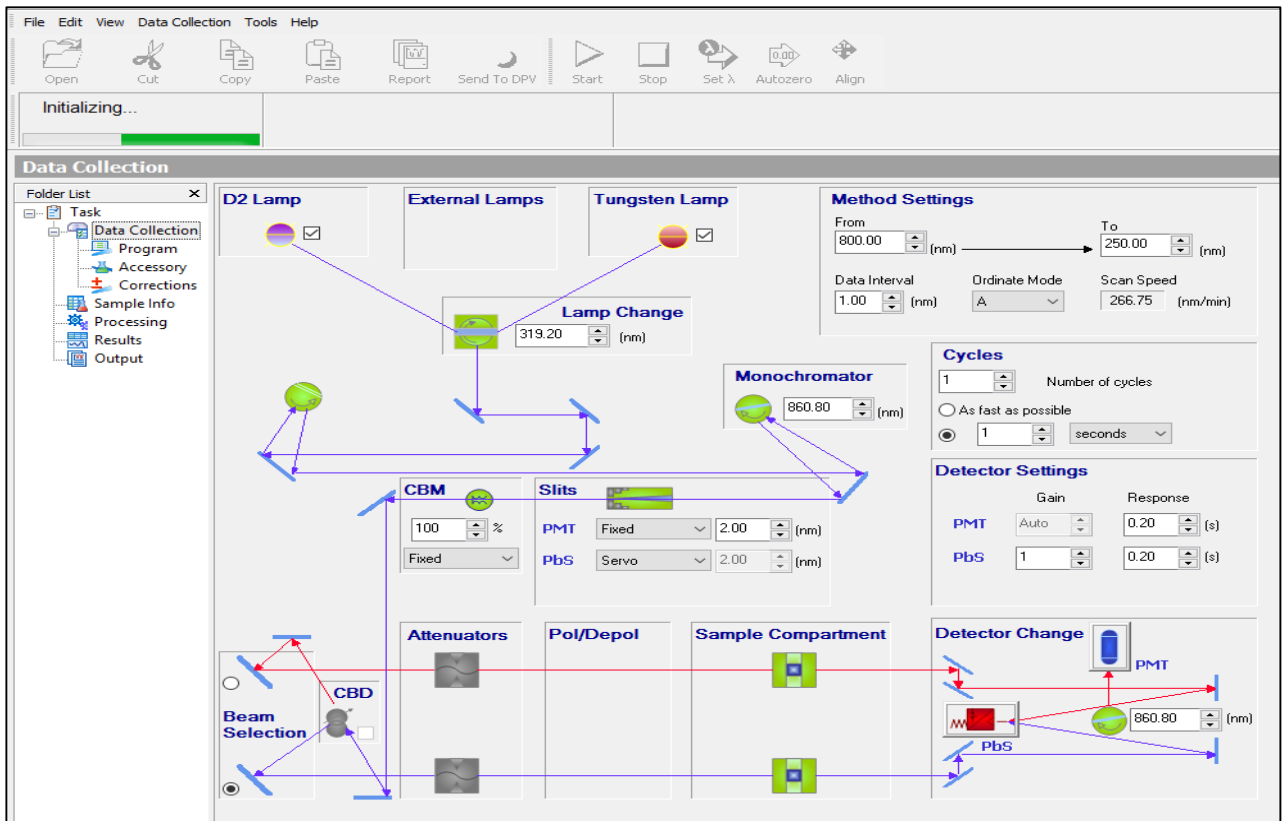

Figure 2: The menu for setting the parameters for operations on the Lambda 950. Some settings may not be available for modification in all menus.
- a. To do this, select the *Align* icon and observe the spot location as shown in Fig 2.
- a. To do this, select the *Align* icon and observe the spot location as shown in Figure 2.
Notice: It can be helpful to attenuate the reference beam path in high absorbance materials so that the reference signal does not swamp the desired signal for analysis. Note the attenuator setting in Figure 2